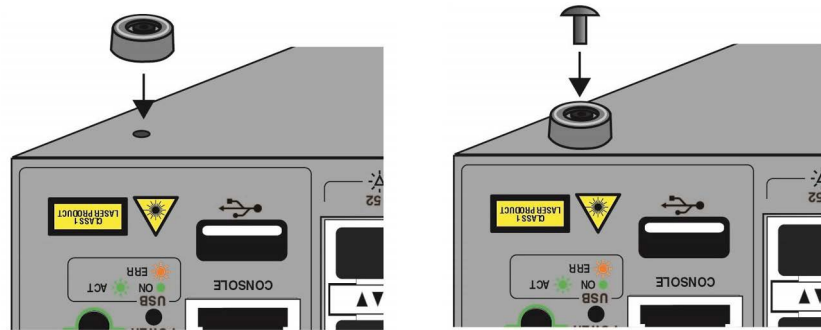

Figure 27. Attaching Bumper Feet on the x330-52GTX Switch
- a. Place a bumper foot over one of the corner holes on the bottom panel of the switch. Refer to Figure 27 on page 61.